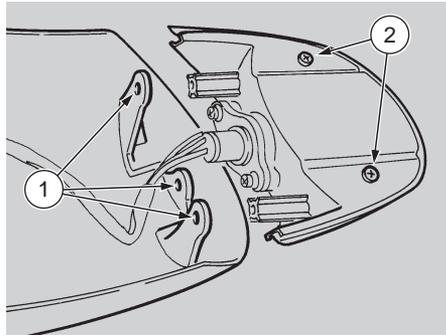

Fig. 60
- ◆ Unscrew and remove the three screws (1-Fig. 60).
- ◆ Unscrew and remove the two screws (2-Fig. 60).